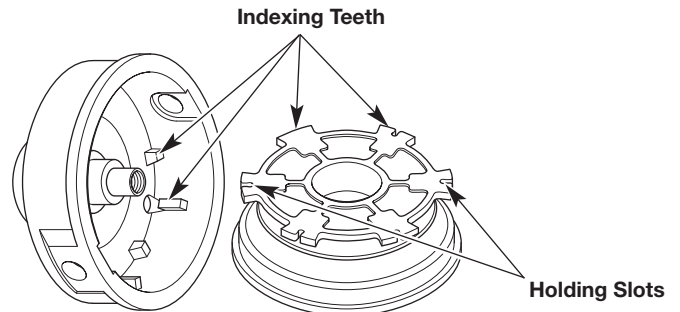

Fig. 14
6. Check the indexing teeth and holding slots for wear (Fig. 14). If necessary, remove burrs or replace the inner reel and outer spool.